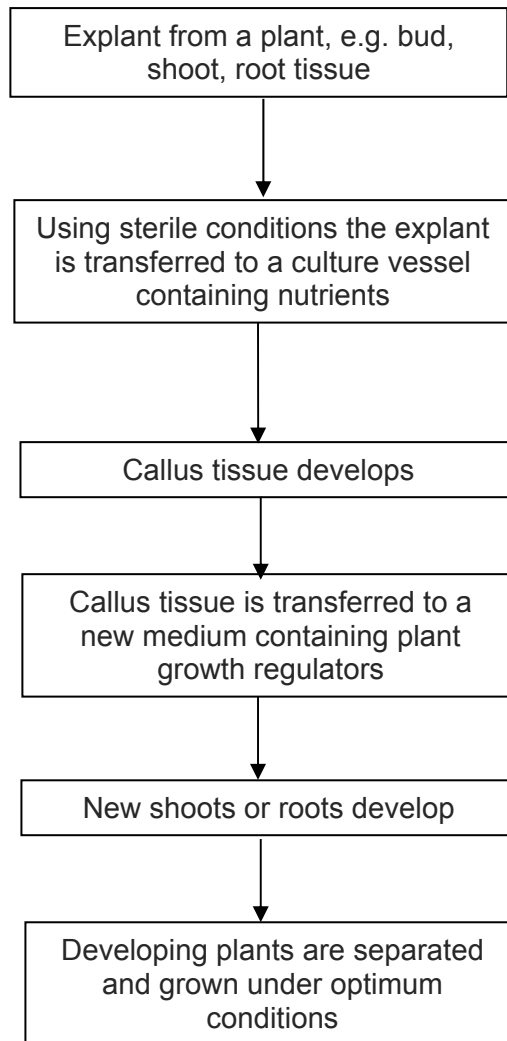

Fig. 3.1
- 3 Plant tissue culture is a method used to propagate plants. **Fig. 3.1** shows one method of plant tissue culture.